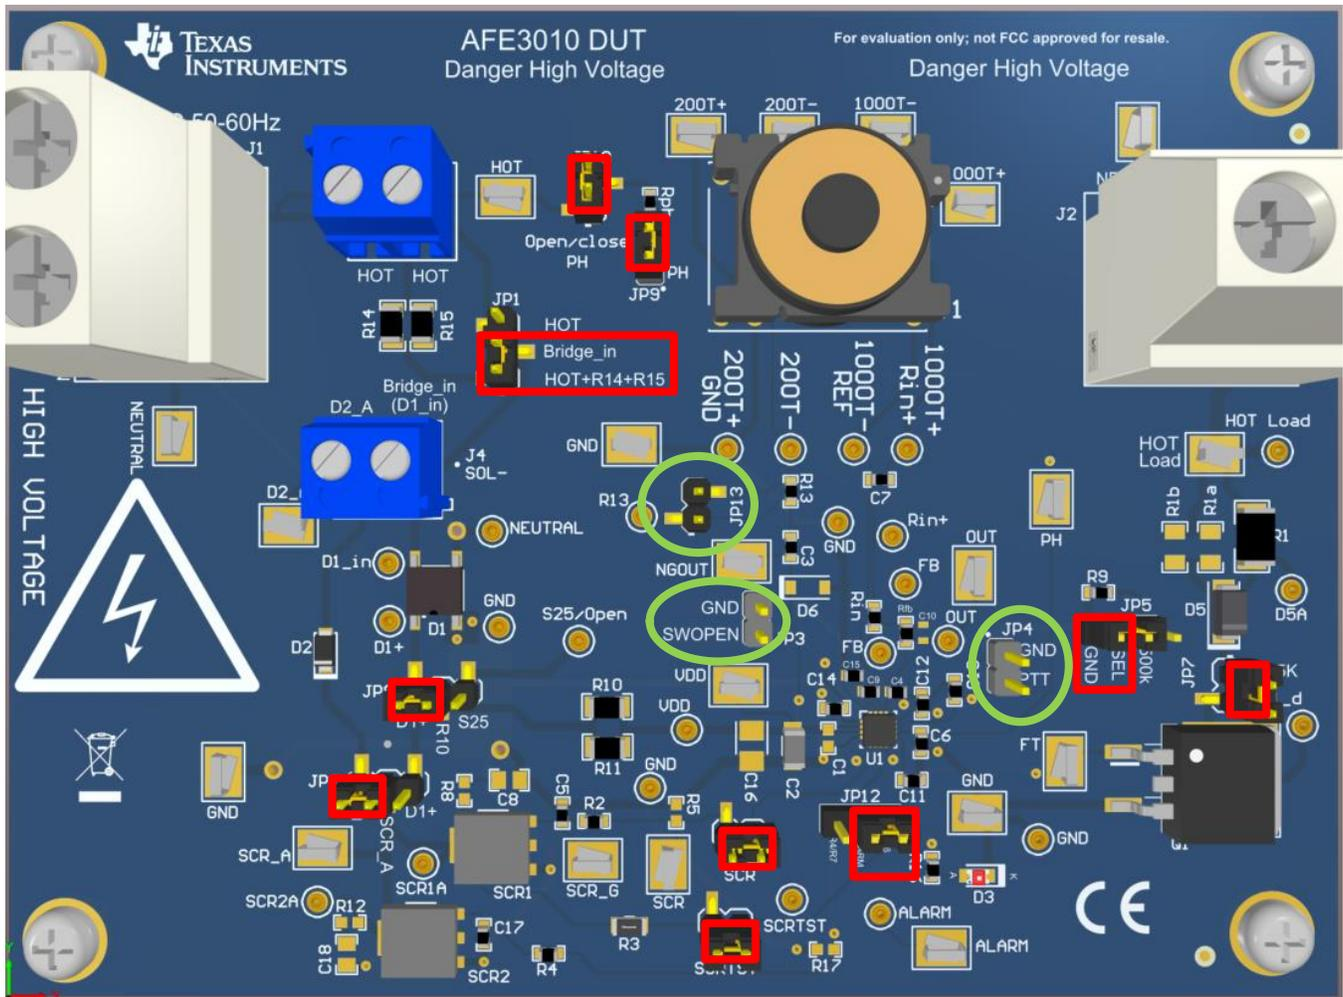

Figure 1. Shunt (H9–H19) Connector Setup: Red Squares = Shunt Position, Green Circle = Open or no shunt
- Step 3. Make sure the header pins are configured and shorted according to Figure 1. Note that correct EVM configuration is also reflected in Figure 3